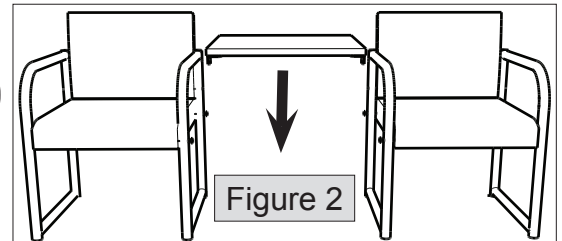

Figure 2
7. Set tabletop between chairs, as shown in figure 2. The slotted brackets should slide onto the bolts from step 6.